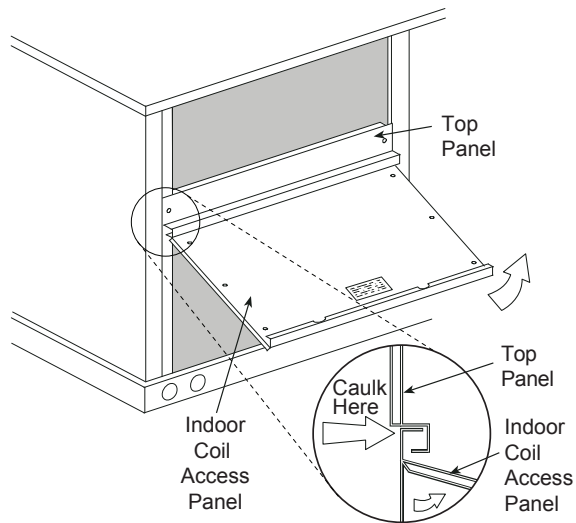

Fig. 11 – Indoor Coil Access Panel Relocation
1. The indoor coil access panel will be used as the top of the hood. Remove the screws along the sides and bottom of the indoor coil access panel. See Fig. 11.